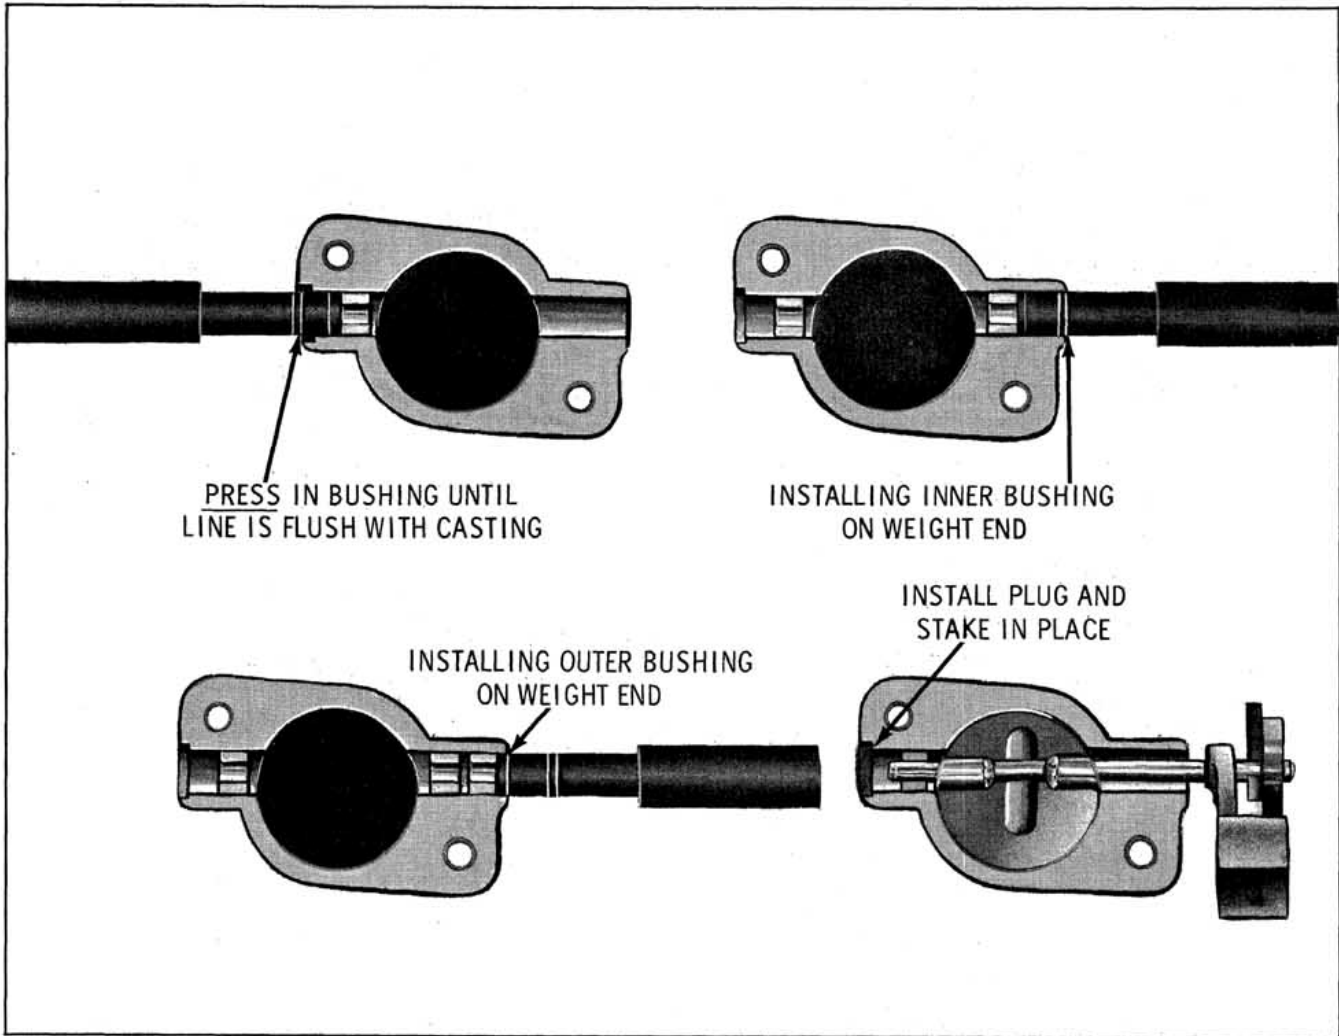

Fig. 3-140 Exhaust Manifold Heat Valve Replacement
## EXHAUST SYSTEM (Figs. 3-140 through 3-150)
6. Lubricate the OD of the bushings, with the largest taper inboard, press the new ceramic lined steel bushings into the manifold with BT-6419, Bushing Remover and Installer, as shown in Fig. 3-140. Two bushings are used on the weight end.